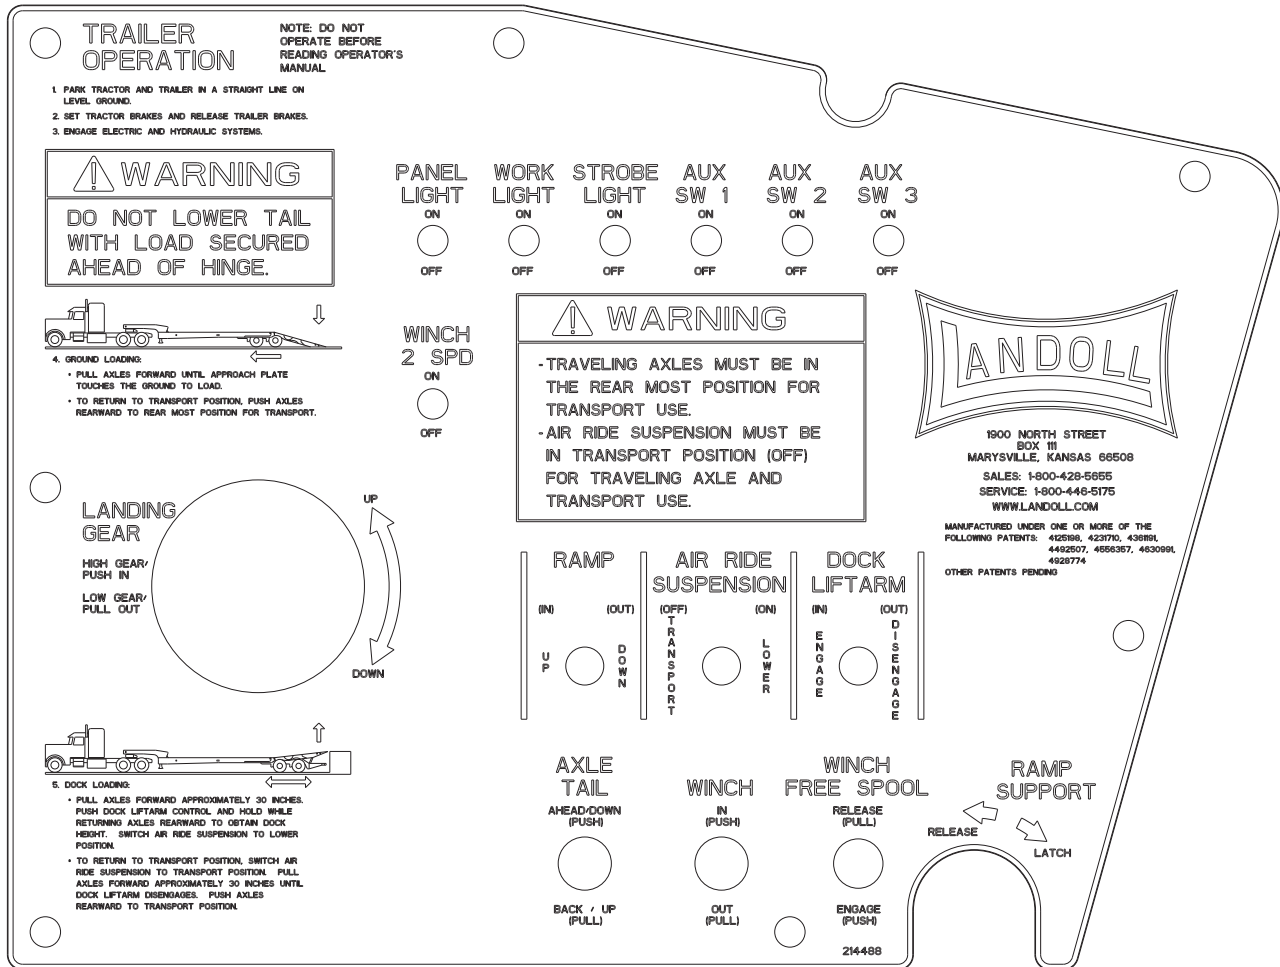

Figure 3-3: Controls Panel
The Axle/Tail Control Knob is located on the control panel (*See Figure 3-3.*) The knob is used both for loading/unloading and dock leveler operation. *See step 2 of “Dock Lift Arm Control Operation (Option)” on page 3-17* for use of Axle/Tail Control Knob for dock leveler operation. The Axle/Tail Control Knob is beside the winch control knob and has three positions (*See Table 3-1.*)
1. The 900E Series semitrailer comes equipped with a “dump valve” on the air ride suspension as standard equipment (*See Figure 3-3.*) The valve has two primary purposes.
The Work Light Switch is on the hydraulic control panel (*See Figure 3-3.*) It illuminates the hydraulic control panel and controls the optional work lights mounted on the bulkhead or slope. The work lights illuminate the upper and lower decks.
1. The Winch Hydraulic knob is located on the driver's side of the upper deck (See Figure 3-3.) It is the second knob from the left and has three positions (See Table 3-2.)